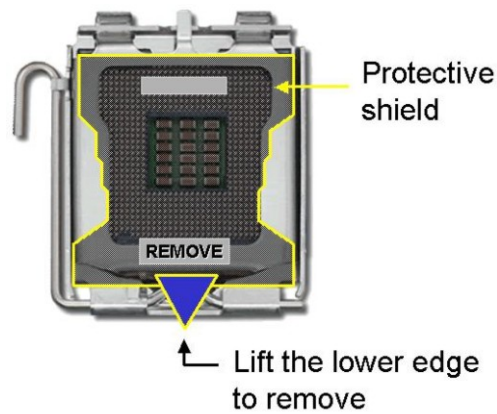

Figure 4-2: Remove Protective Cover
Step 1: Remove the protective cover. The black protective cover can be removed by pulling up on the tab labeled "Remove". See **Figure 4-2**.